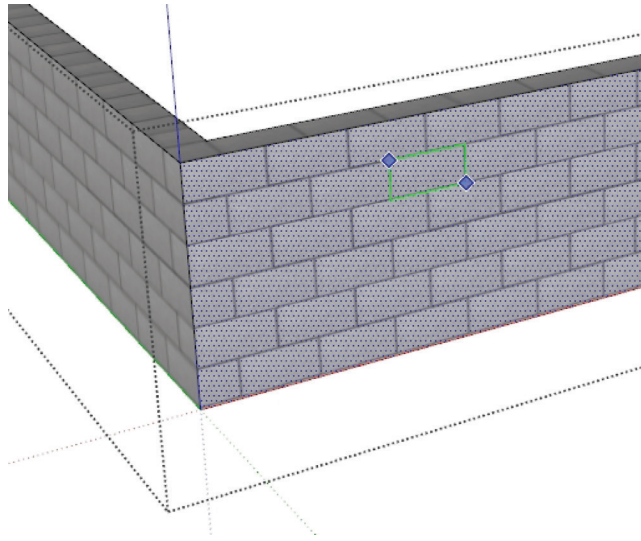
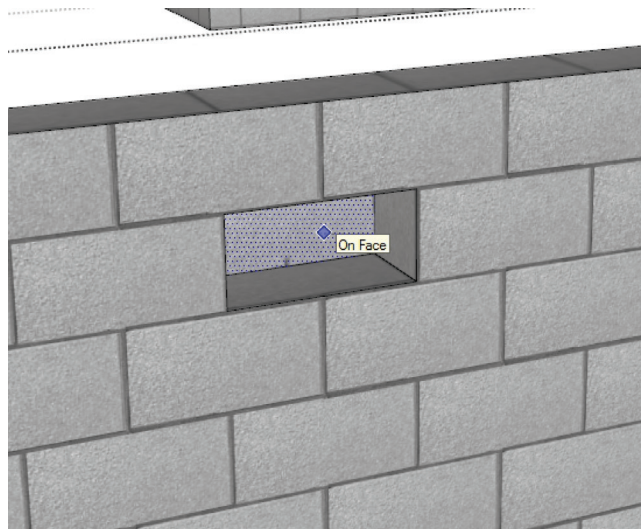
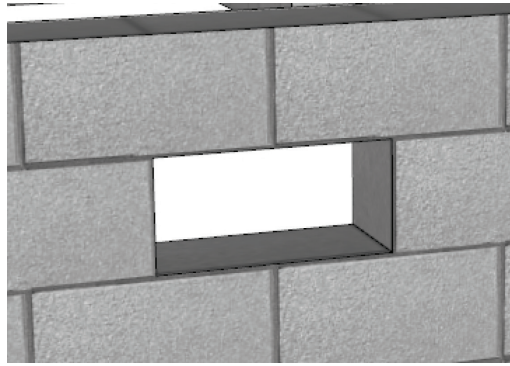

Figure 10.31 Rectangle.
Figure 10.32 Face.
Figure 10.33 Vent Hole.
29. Next, add a hole in the wall that is 8" × 16" (our vent) to show you another cool trick. While you are still in edit mode, press R to draw a rectangle on the face of the wall. You can enter the dimensions (in this case 16, 8 in the measurements box), or simply approximate the rectangle over a "block" in the texture as you see in Figure 10.31. This adds a new face on the wall face. Next, you use the push/pull tool to create the hole in the wall. Press P to push this face inward. To make it cut the hole out completely, push it back until the face meets the back side of the wall. When you are directly on the back face, you will see "On face" (Figure 10.32), then click to make the opening (Figure 10.33).